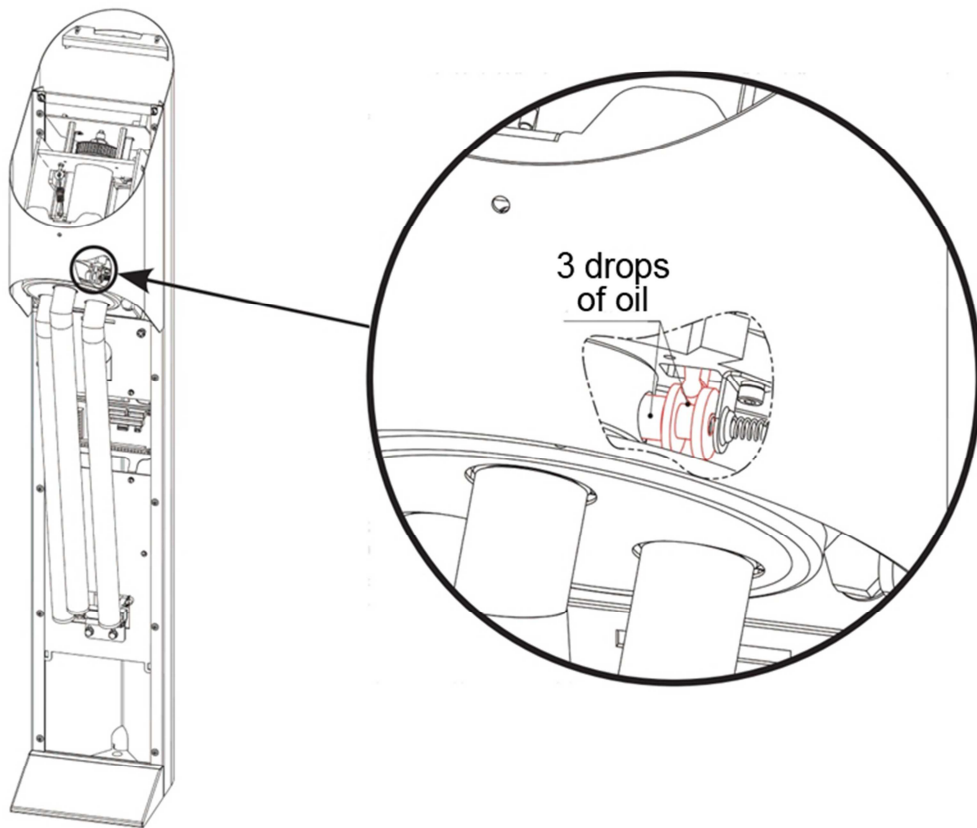

Fig. 15 Central stand of turnstile
5.5. The connection of lock pin and arms-unblocking cams (Fig. 15). The operation shall be done for each arm by rotating the disc. Hole in Fig. 15 is shown in the conventional manner.